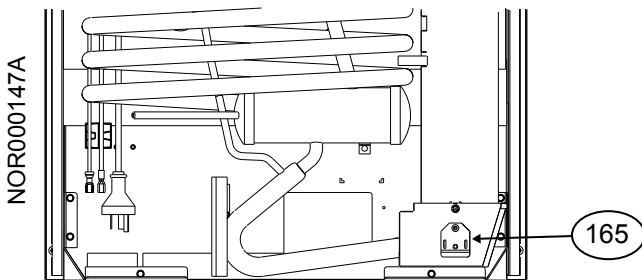

Fig. 10 - Burner Box Location
2. Push and hold the ON/OFF button (⏻) for one (1) second to turn the refrigerator off.
4. Remove the burner box cover [165] (See Fig. 10) by removing one (1) screw.